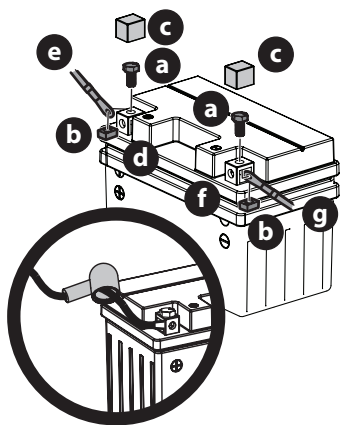

Figure 21
1. Remove the factory installed hex screws (a) and square nuts (b) located either on the end of the wiring harness or in the bag with this manual. Retain the hardware for later instructions (Figure 21).
2. Remove the plastic cover (c), if present, from the positive battery terminal (d) and attach the red cable (e) to the positive battery terminal (d) with one of the hex screws (a) and square nuts (b), from Step 1. Use a Philips screw driver (Figure 21).
3. Position the red rubber boot over the positive battery terminal to help protect it from corrosion (Figure 21 inset).
4. Remove the plastic cover (c), if present, from the negative battery terminal (f) and attach the black cable (g) to the negative battery terminal (f) with the remaining hex screw (a) and square nut (b) (Figure 21).